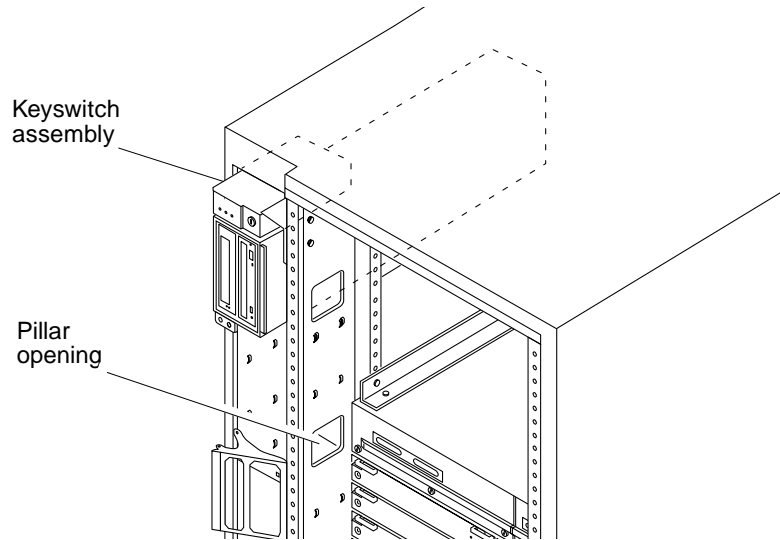

FIGURE 1-21 Cabinet Keyswitch Assembly and Pillar Opening
4. Thread the cable through the opening in the cabinet pillar directly below the SCSI tray and around to the back of the SCSI tray, then connect the female end of the cable to the connector at the back of the cabinet keyswitch (FIGURE 1-21). Connect the SCSI tray fan power cord to its connector at the rear of the keyswitch assembly.